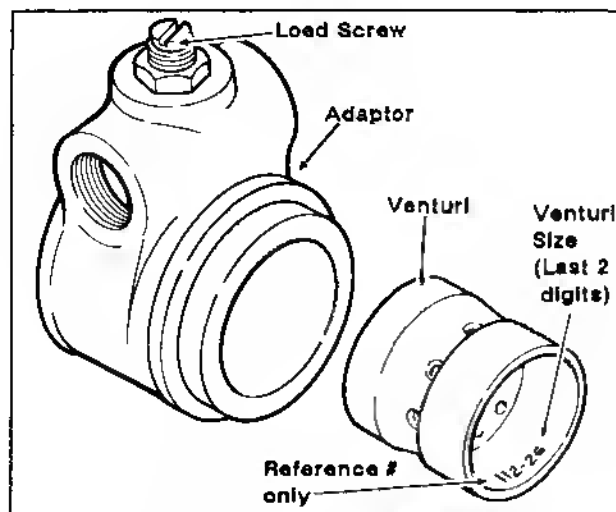

Figure 6A-24. Venturi Identification.
- b. If the adapter is equipped with a no. 20 size venturi, (see Figure 6A-24) remove no. 20 venturi and replace with no. 26 size venturi.